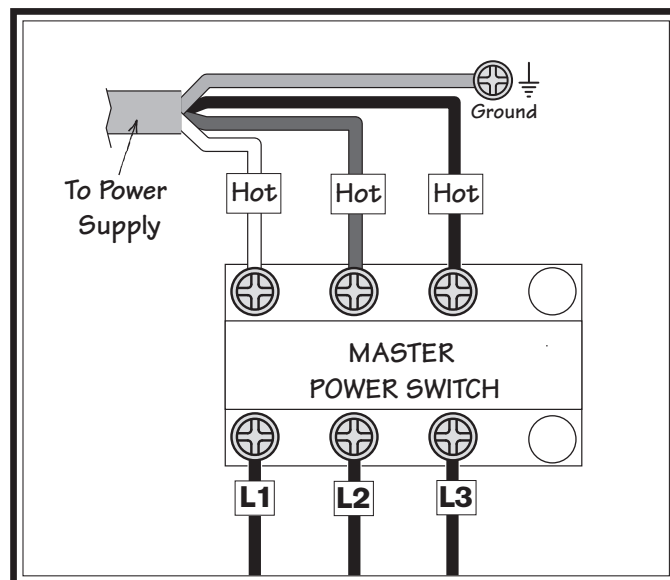

Figure 23. Power connection at master power switch.
3. Connect the incoming hot wires to the master power switch terminals and connect the ground wire to the ground terminal, as illustrated in **Figure 23**.